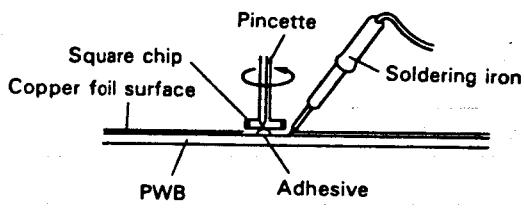

Figure 67.
2. Holding the chip with a pincette, take it off gently using the soldering iron's heat applied on each terminal of it. See Fig. 67.